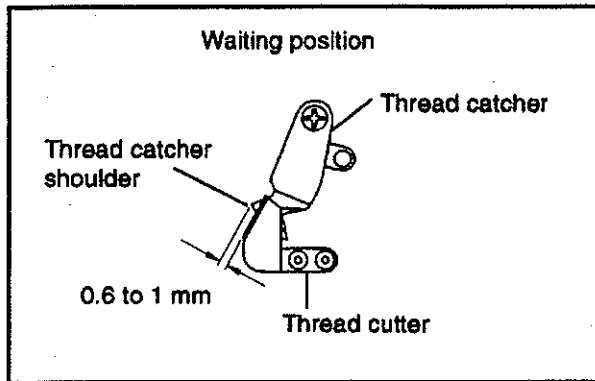

FIG.3
- (1) When the thread catcher is in the waiting position, the dimension between the shoulder and the thread cutter must be 0.6 to 1.0mm (Fig.3). (Refer to "3-4 Waiting position of thread catcher" on page 26).